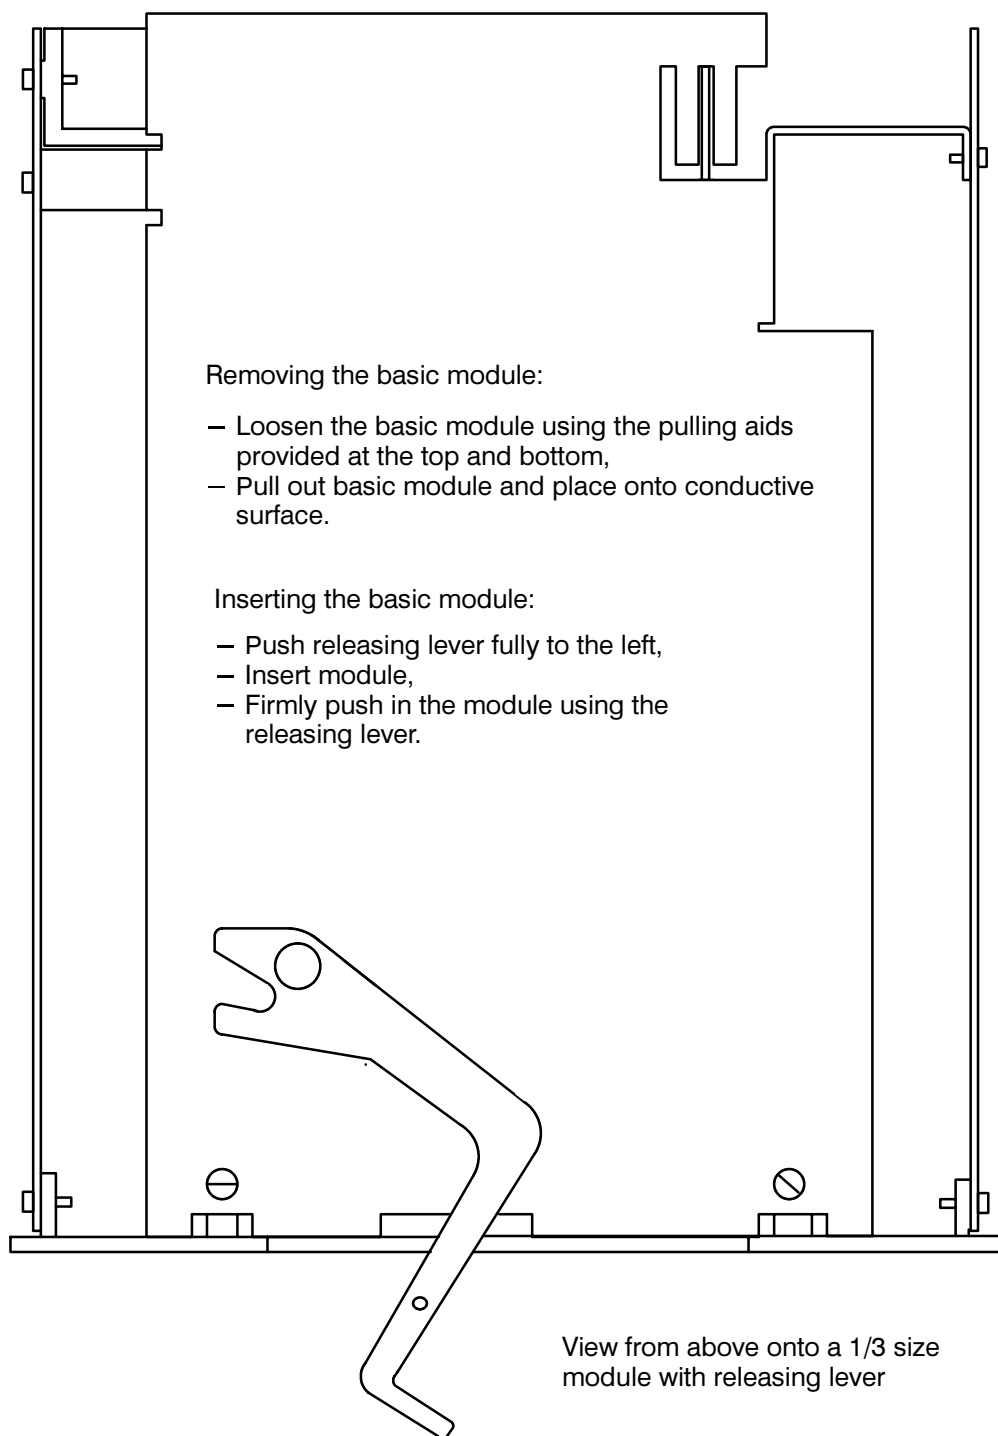

Figure 7.2 Aid for removing and inserting basic module
- Loosen the basic module using the pulling aids provided at the top and bottom. (Figure 7.2).
- Insert basic module into the housing; ensure that the releasing lever is pushed fully to the left before the module is pressed in (Figure 7.2).
- Firmly push in the module using the releasing lever. (Figure 7.2).